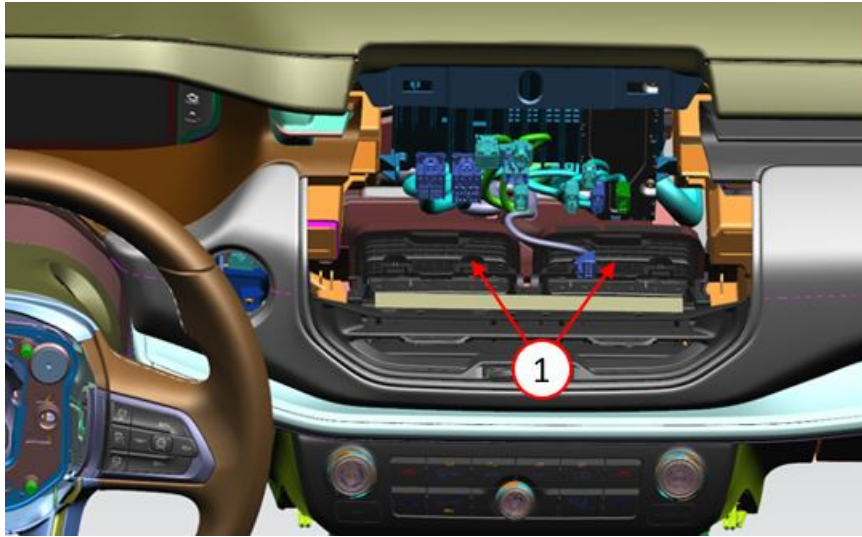

Fig. 1
2. Remove the air ducts that are located behind the display screen (Fig. 1) .